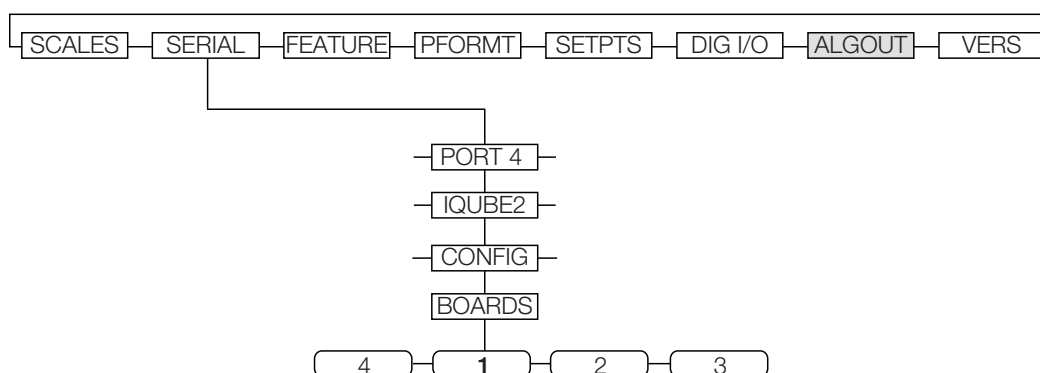

Figure 4-3. Boards Menu Selection
1. Navigate through the **SERIAL** menu as shown in Figure 4-3.